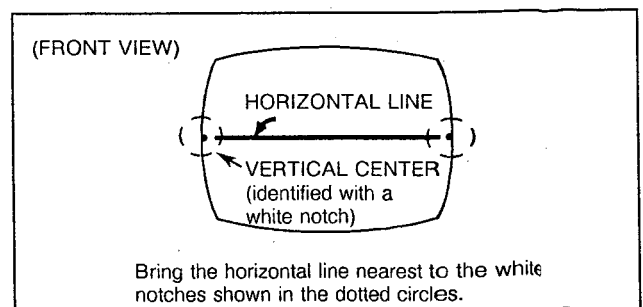

Fig.B-4
6. Check the vertical center position by displaying a horizontal line. ( Select the CUT-OFF SERVICE SWITCH from N to S and a HORIZONTAL LINE will appear. ) Unless correct, bring it to the nearest center by rotating the two tabs, kept at an angle, together in either direction. ( Fig. B-4 )